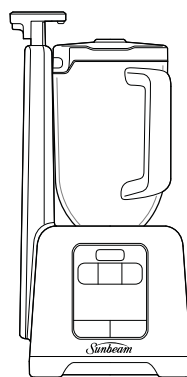

Figure 3
4. Place the blending Jug on the Motor Base (Figure 3).